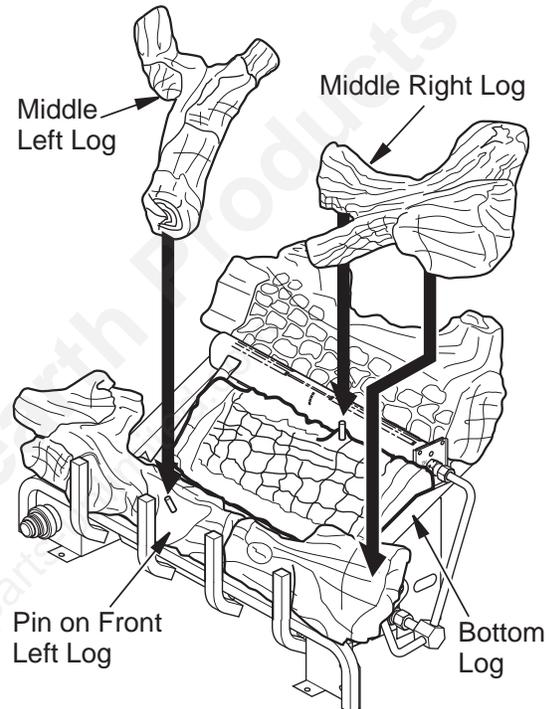

Figure 22 - Installing Log Sets
5. Place middle right log over front right and bottom logs as shown in **Figure 22**. Be sure hole in middle right log seats over pin in bottom log.
6. Place middle left log over front left and bottom logs as show in **Figure 22**. Be sure hole in middle left log seats over pin in front left log.